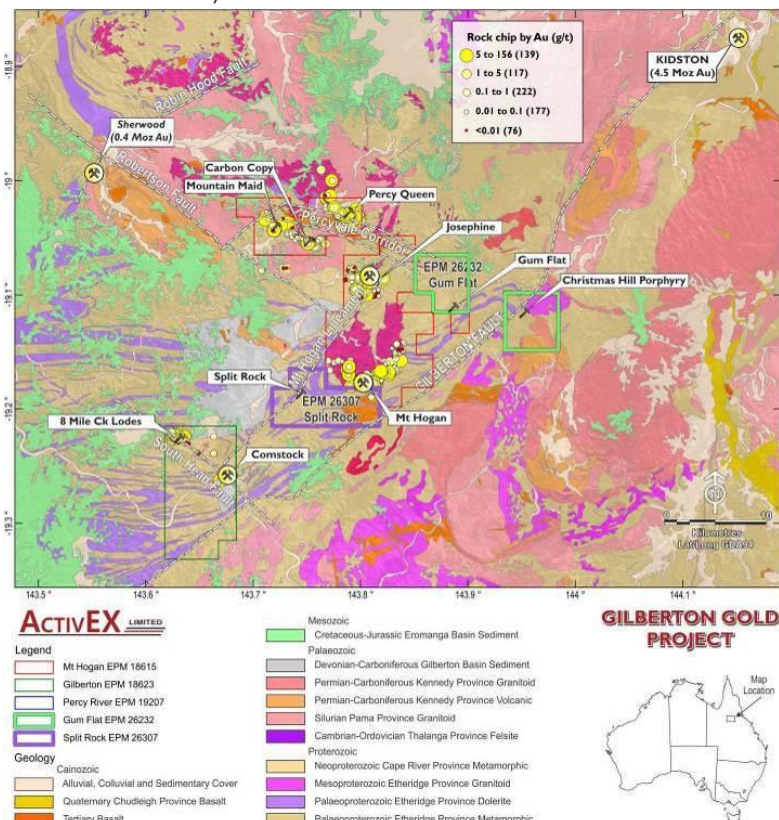

Figure 1. ActivEX Limited Gilberton Gold Project
A total of 1,881m were drilled comprising 31 vertical drillholes. The drilling was located within the Mt Hogan (EPM 18615) and Split Rock (EPM26307) tenements as shown in Figure 1 &2. Assays have been received from 3 Reverse Circulation (RC) holes out of 31 RC holes drilled. When the assay results from the remaining 28 RC holes have been finalised, they will be reported to the market.